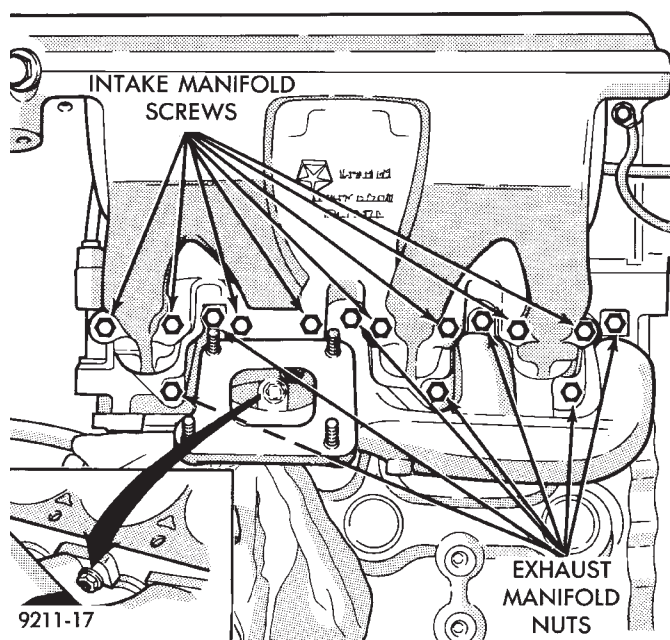

Fig. 9 Intake and Exhaust Manifolds—Turbocharged Engines
Remove 8 intake manifold screws and washer assemblies and remove intake manifold (Fig. 9).
Remove 8 exhaust manifold retaining nuts and remove exhaust manifold (Fig. 9).
(1) Install new two-sided grafoil or equivalent intake/exhaust manifold gasket. **DO NOT APPLY SEALER.**
(2) Position intake manifold, install, and tighten 8 retaining screws starting at center and progressing outward in both directions to 23 N•m (200 in. lbs.) torque. Repeat this procedure until all screws are at specified torque (Fig. 9).
(3) Set exhaust manifold in place. Install and tighten retaining nuts, starting at center and progressing outward in both directions to 23 N•m (200 in. lbs.) torque. Repeat this procedure until all nuts are at specified torque.
(4) Install cowl mounted heat shield.